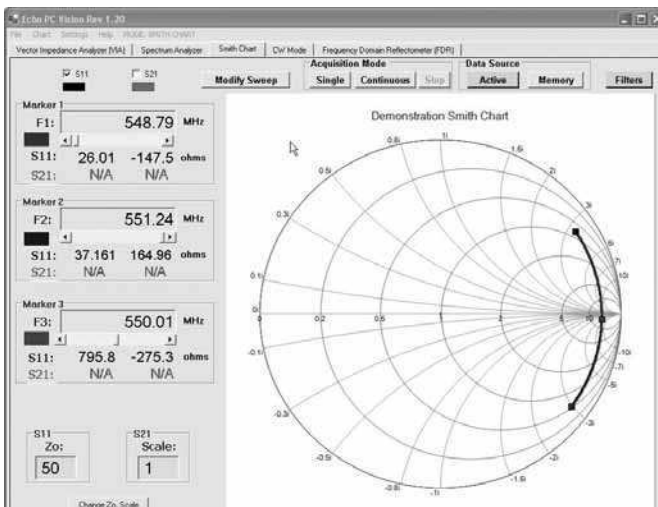

Figure 7-20
The Smith Chart Tab, figure 7-20, re-computes the graphical data for Impedance and Reactance from the Cartesian Chart (XY Chart) to the Smith Chart format. The purely resistive component (R) is plotted along the horizontal line on the chart with  $Z_0$  at the center (point 1). Infinite Ohms is to the right and zero Ohms is to the left. As the frequency of a sweep changes the Z will plot left or right of  $Z_0$ . The reactive component (X) plots along the circular arcs on the chart with all inductive readings above the horizontal center-line and all capacitive readings below the center-line. As the frequency changes the antenna’s or circuit’s test results will become more capacitive or more inductive and plot accordingly. A perfect antenna or circuit would be an arc representing the swept frequency range with the Center Frequency CF crossing the horizontal center-line at 1.0 or  $Z_0$  and even amounts of the arc above and below the center line. For more information about Smith Charts see AEA Technology’s Application Note AN-104 “Smith Charts 101”